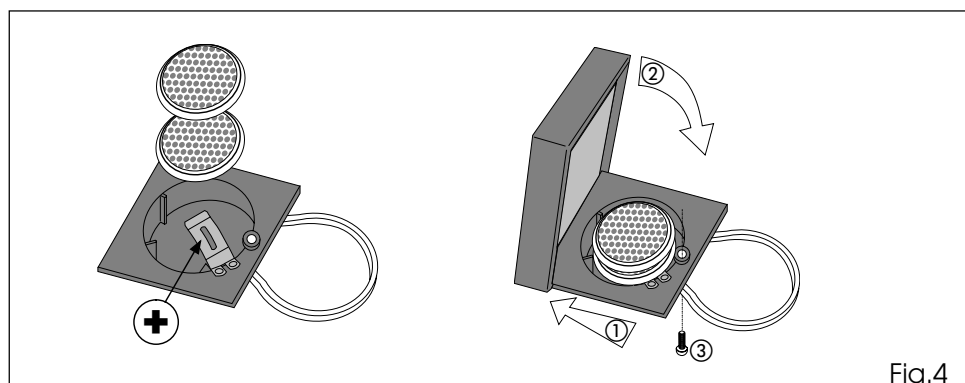

Fig.4
- Replace the two mod. CR2032 3V lithium batteries, fitting them in the compartment and observing correct polarity as shown in figure 4;
- Fit the base on the housing (ref. 1 fig. 4) before closing (ref.2 fig.4) and then secure with the screw (ref.3 fig. 4).